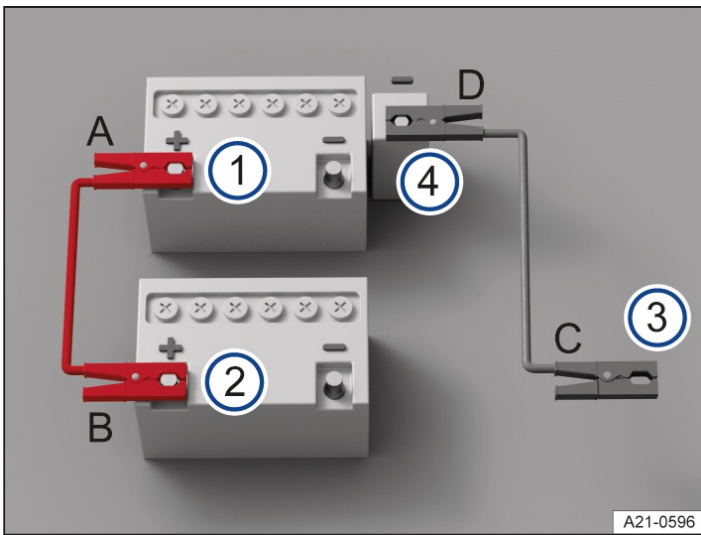

Fig. 1 Diagram showing how to connect jump leads in vehicles with a 12-volt vehicle battery in the engine compartment.
Connect the jump leads only in the order A – B – C – D → Fig. 1.
3. Connect one end of the red jump lead to the positive terminal(+) of the 12-volt vehicle battery with the discharged 12-volt vehicle battery → Fig. 1 ① → ⚠.
4. Connect the other end of the red jump lead to the positive battery terminal(+) of the vehicle providing assistance → Fig. 1 ②.
5. Connect one end of the black jump lead preferably to an earth jump-start connection point(-) on the vehicle with the 12-volt vehicle battery providing assistance → Fig. 1 ③.
Or: if no earth jump-start connection point(-) is present, connect the end of the black jump lead to a solid metal part that is securely bolted onto the cylinder block or to the cylinder block itself on the vehicle with the 12-volt vehicle battery providing assistance → Fig. 1 ③.
6. Connect the other end of the black jump lead to the earth jump-start connection point(-) on the vehicle with the discharged 12-volt vehicle battery → Fig. 1 ④ → ⚠.